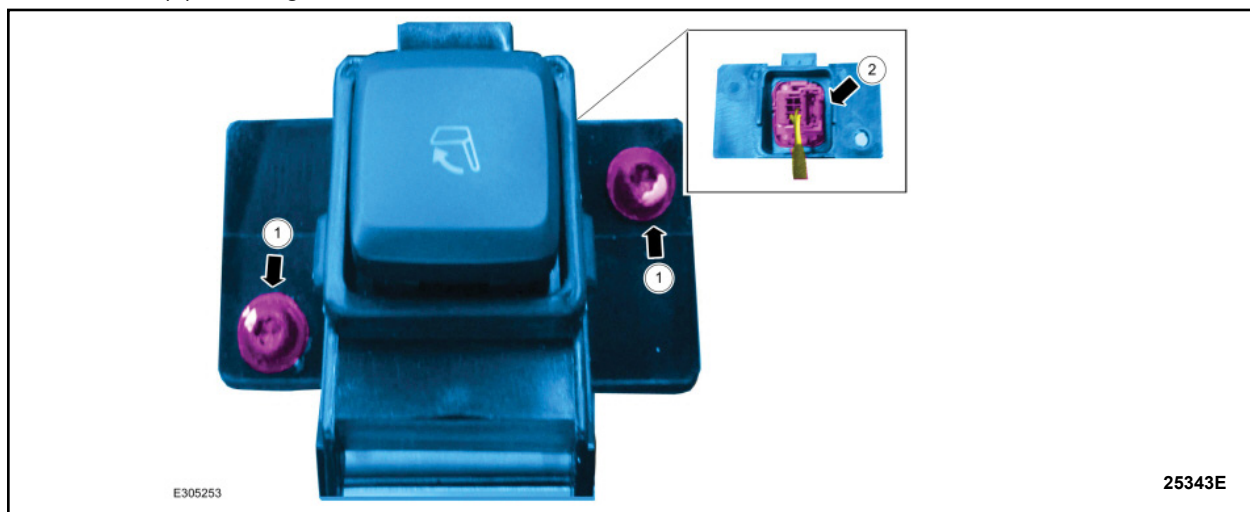

FIGURE 4
3. Remove the second-row single seat easy entry seat fold switch (1), then disconnect the electrical connector (2). See Figure 4.
6. Connect the electrical connector and install the second row single seat easy entry seat fold switch with the *new* housing. See Figure 4.